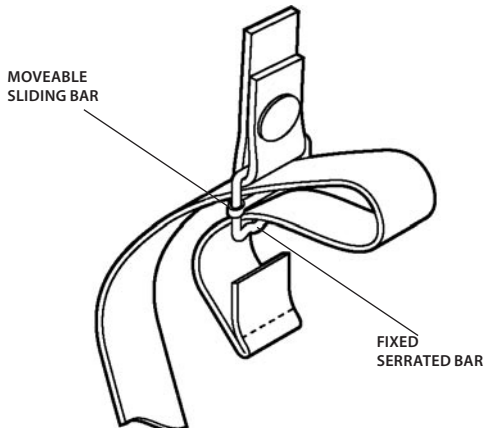

Figure 4-2. Threading the Sliding Bar Buckles
- (1) Thread the strap from the inside of the buckle over the moveable sliding bar (see Figure 4-2.). Thread the strap back through the buckle; this time, thread it under the moveable sliding bar and over the serrated part of the buckle.
- (2) Pull the strap through the buckle and tighten.
- (3) Repeat steps 1 and 2 for other straps and buckles that have come undone.